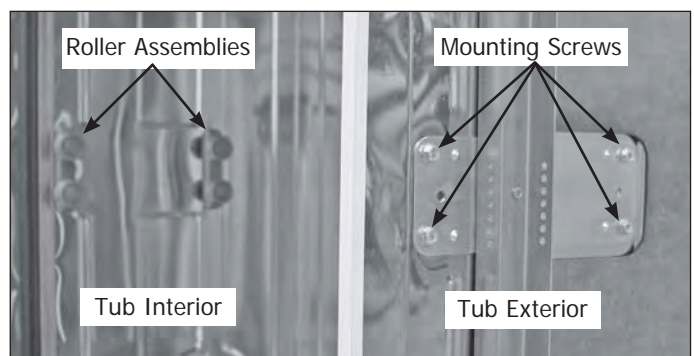

Figure 4-18.
3. Extract the two screws that secure the roller assembly to the interior of the wash tub. To access the inner roller assembly screws the insulation wrap will need to be removed. (See Figure 4-18)